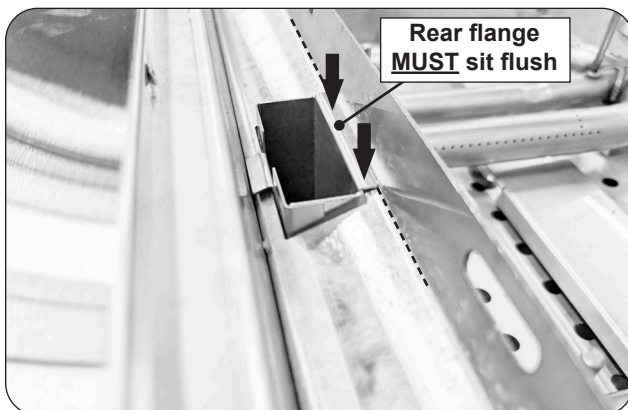

Fig. 40-3 Drip tray chute installed
3. To replace, drop the chute back into the top and bottom cutouts of the front firebox wall. The rear flange MUST sit flush against the firebox wall. See Fig. 40-3.